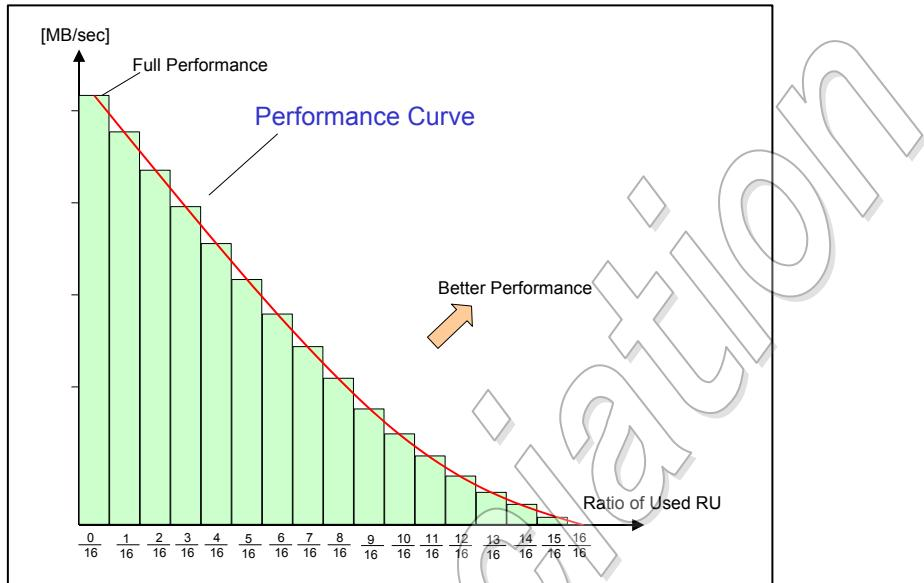

Figure 4-49 : Card Performances between 16 RUs
Figure 4-49 shows the write performance bar chart of $P(Nu)$ of equitation (1). An AU consists of 16 RUs in this example. Joining the points of each bar shows the performance curve, which can be determined from the two parameters, Pw and Pm .